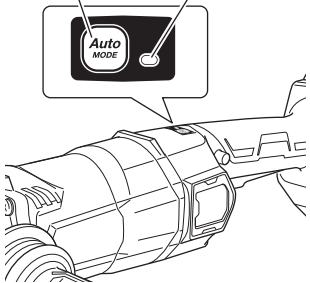

Fig. 9
9. About the Mode change function and Mode display lamp (Fig. 9)